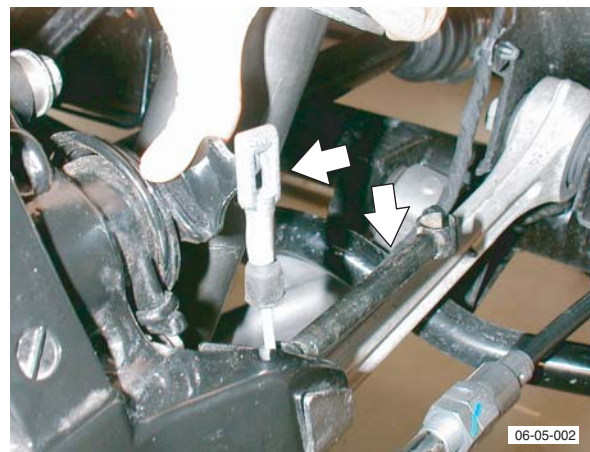

Fig. 2
- Release inner cable eyelets from Caliper levers, compress ring clip and remove cable (see Fig. 2).